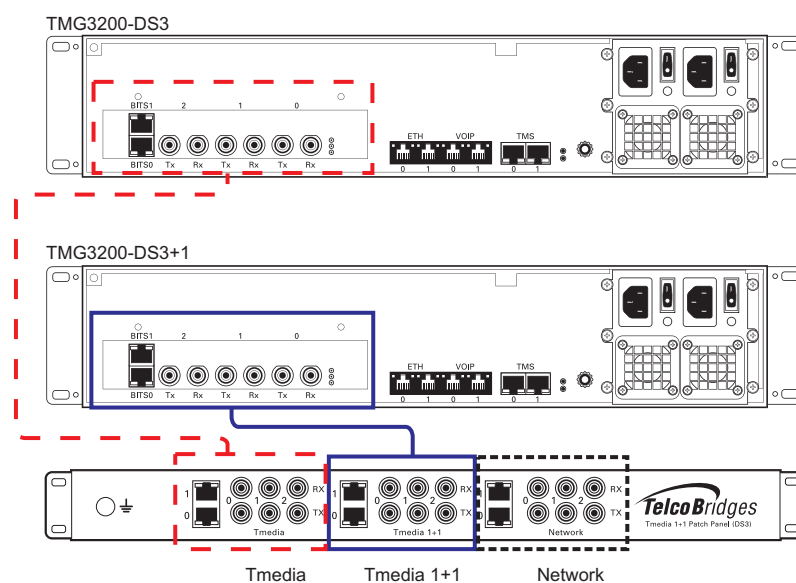

Figure 2.16 TMG3200-DS3 and TMG3200-DS3+1 connecting to the TDM 1+1 DS3 1+1 patch panel
A TMG3200-DS3 and TMG3200-DS3+1 each with 3 sets of BNC connectors enables the connection to DS3 lines. See figure 2.16 on page 37.
1. Connect each DS3 line from the network section of the 1+1 patch panel to the remote equipment. See figure 2.16 on page 37.